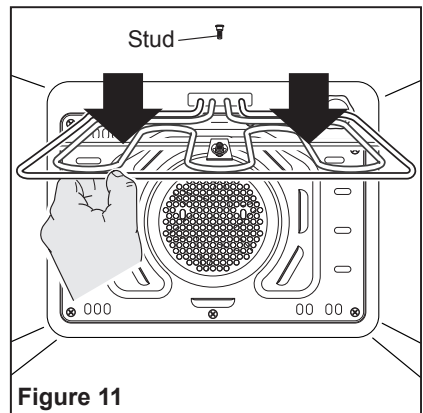

Figure 11
- The grill is secured to the rear wall of the ovens on a hinge system that allows it to be lowered to allow proper access when cleaning the oven ceiling (fig. 11).